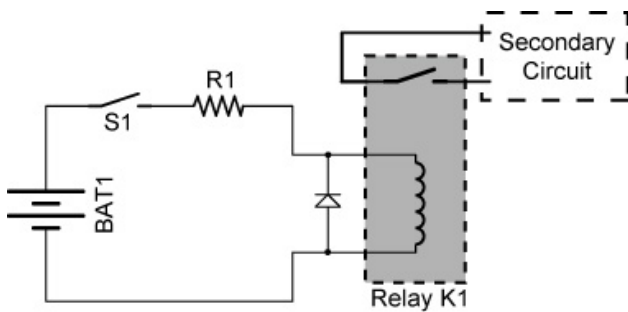

Figure 2
- Major Parts of a Mechanical Relay (See Figures 2 and 3):
- Action: When the control circuit of a relay energizes the coil, the coil's attraction force pulls a lever arm called an armature toward the coil. This action turns the secondary circuit on and off. See Figures 2 and 3.